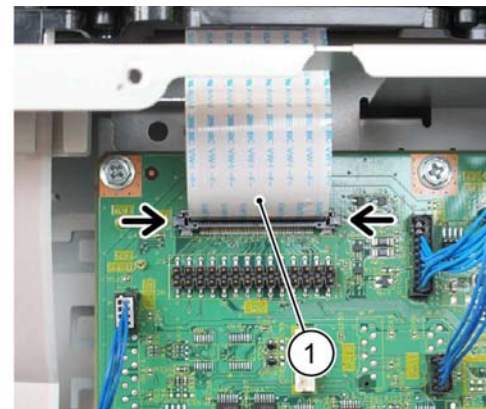

Figure 2 Ribbon cable
4. Carefully disconnect the ribbon cable (1) by releasing the side clips, Figure 2.